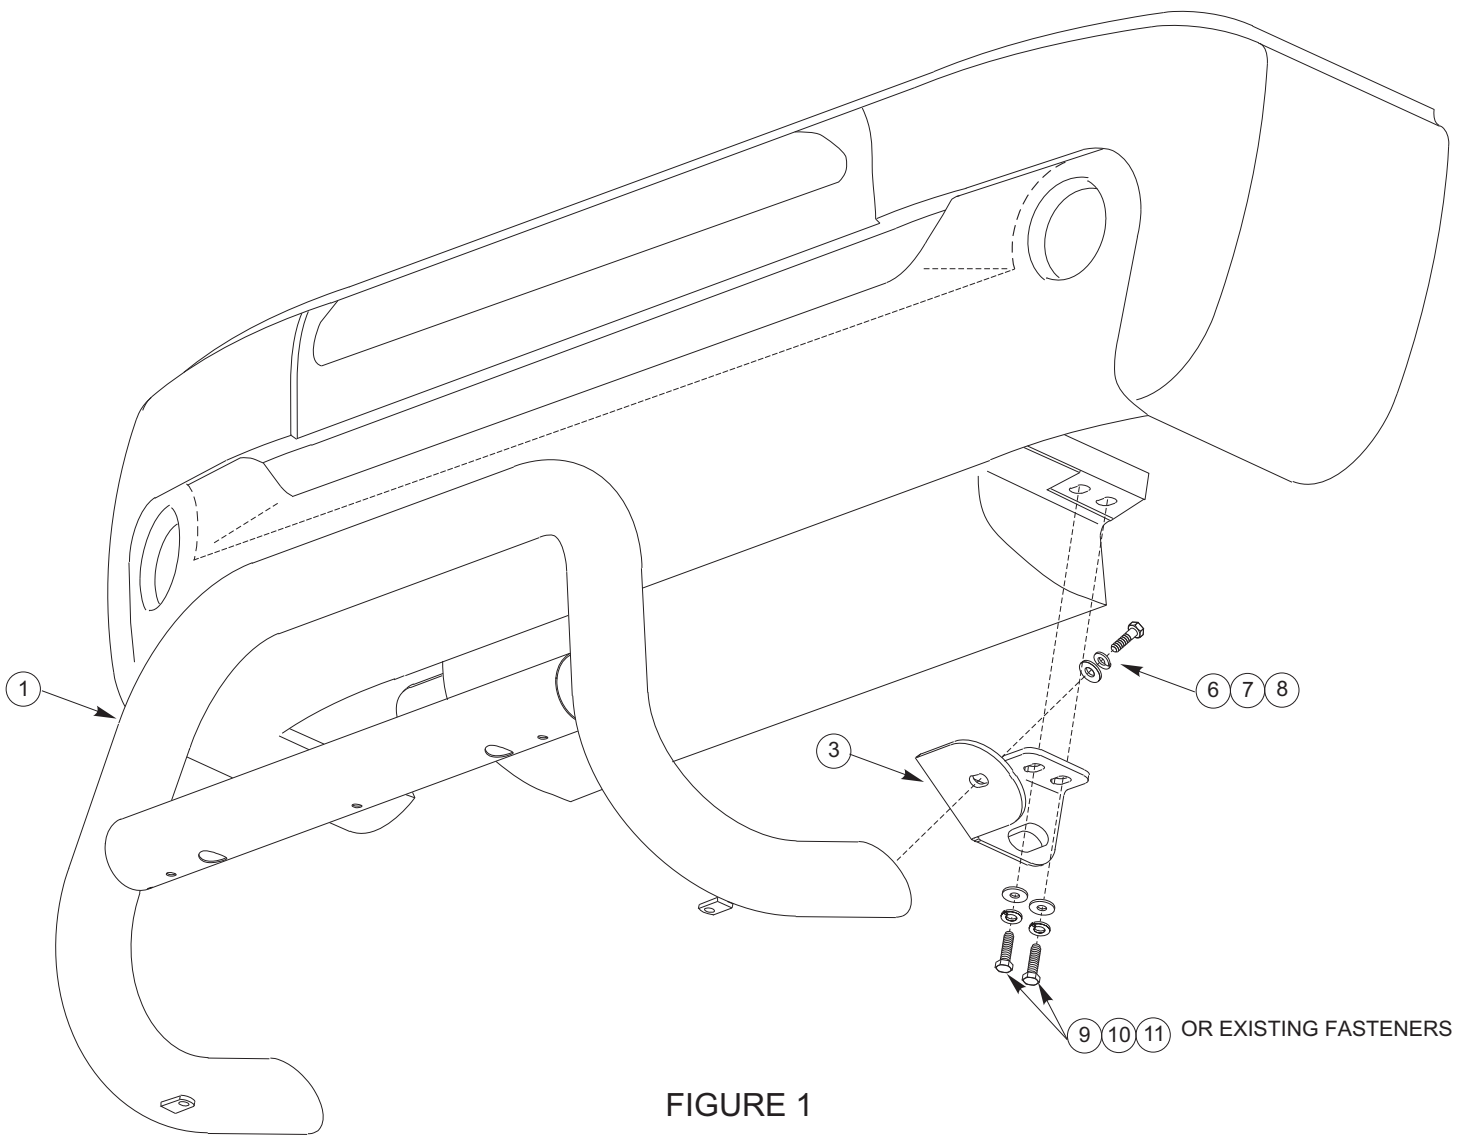

FIGURE 1
- STEP 3.** Determine passenger and driver brackets. **SEE FIGURE 1.** Remove and discard tie down loop and tow hook. Save shorter 12mm fasteners. Attach brackets using shorter existing fasteners and supplied 12mm bolts as shown. Leave loose.